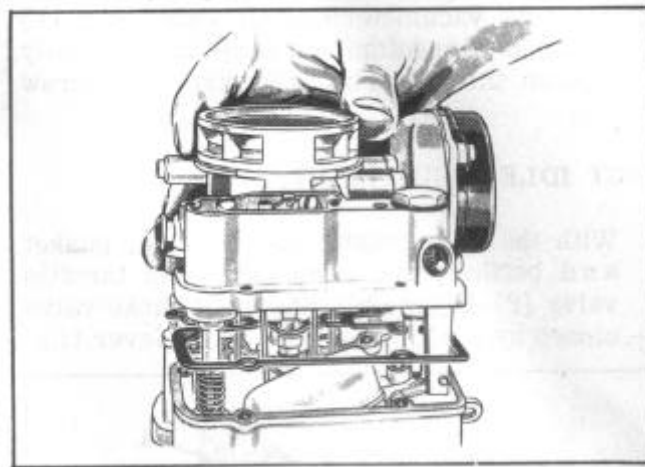

FIGURE 55
3. Remove bowl cover with all parts attached, Figure 55.